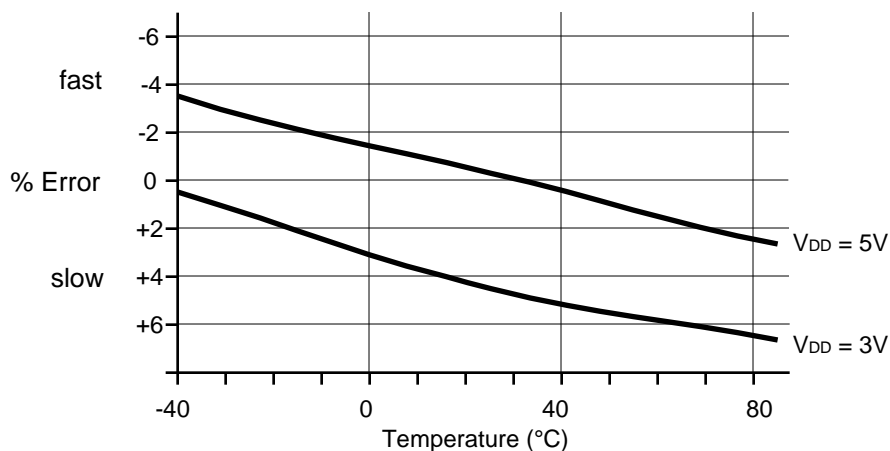

Figure 1. Average Timing Error
3. Pulse timing is affected by supply and temperature variations as shown in Figure 1 below. Results shown are average values that can be expected.